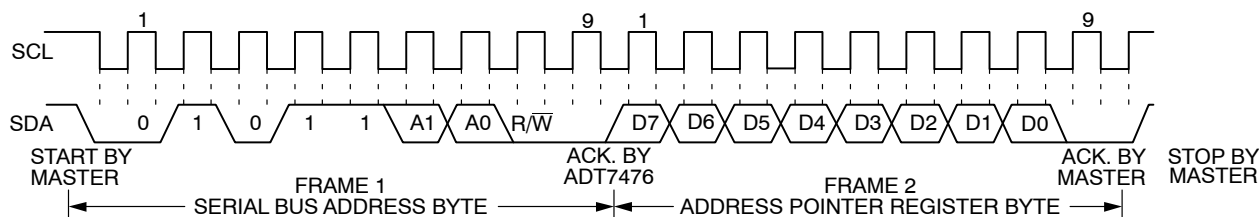

Figure 19. Writing to the Address Pointer Register Only
1. If the ADT7476's address pointer register value is unknown, or not the desired value, then it must first be set to the correct value before data can be read from the desired data register. This is done by performing a write to the ADT7476 as before, but only the data byte containing the register address is sent, because no data is written to the register (see Figure 19).